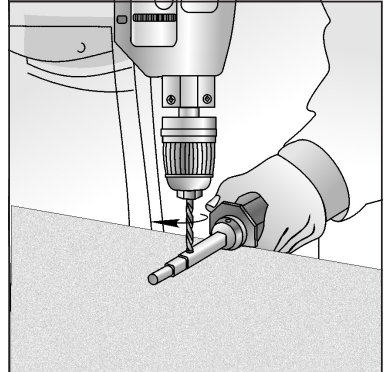

Fig. 24
- extract the cap from the roll tube, unscrew the expansion screw and pull out the bearing rod to provide the space for center drilling; perform the center drilling of 1 – 2 mm deep hole for the expansion screw according to the cast (Fig. 24). It is allowed to perform center drilling in the shutter box without extracting the cap;